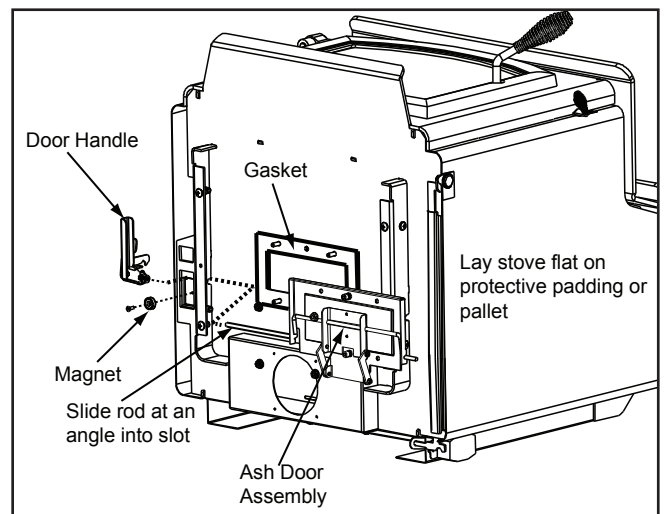

Figure 41.2
3. Remove the 2 nuts and 2 bolts holding the ash grate channel in place and set the channel aside. Discard the 2 nuts. Install the gasket over the 8 protruding screws. **Figure 41.2.**
4. Install ash door assembly by sliding the rod at an angle into the slot on the left side. Slide the door handle over the rod and then finish pushing the rod through the slot. Slide the ash door over the 8 screws protruding from the bottom of the stove. Secure with nuts and washers provided. **Figure 41.2.**
6. Install magnet using a Phillips head screwdriver. This magnet will hold the door handle in an open position which in turn holds the ash door open so ashes can be brushed into the ash drawer. **Figure 41.2.**